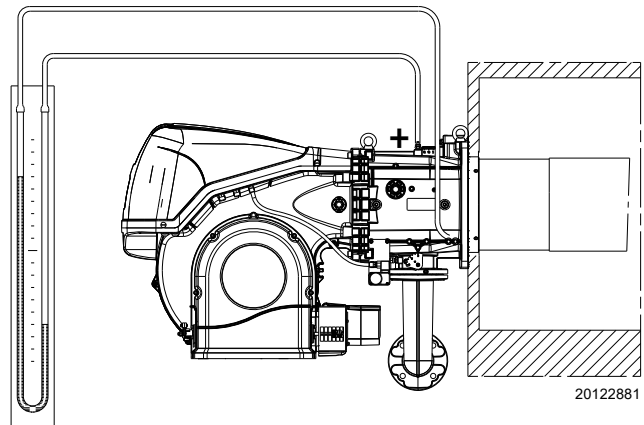

Fig. 31
- Fit a U-type pressure gauge or a differential pressure gauge (Fig. 31), with socket (+) on the gas pressure of the pipe coupling and (-) in the combustion chamber.